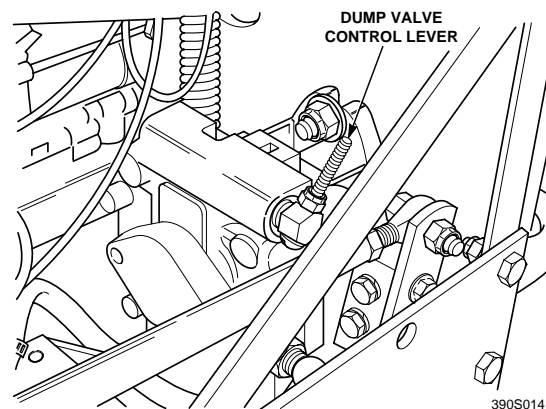

Figure 4-2 Dump Valve Control
12. **Dump Valve Control Levers (Figure 4-2).** Located on the hydraulic pumps, used to "free-wheel" the mower. Rotating the levers clockwise until they stop allows the unit to move under hydraulic power. The levers must be in this position during operation of the mower. Rotating the levers counter-clockwise allows the mower to be moved by hand (free-wheeling).
To “free-wheel” or move the mower around without the engine running, place the dump valve levers in the FREE-WHEEL position (Figure 4-2). Disengage the parking brake and move the mower by hand. The dump valve levers must be returned to the DRIVE position to drive the mower.